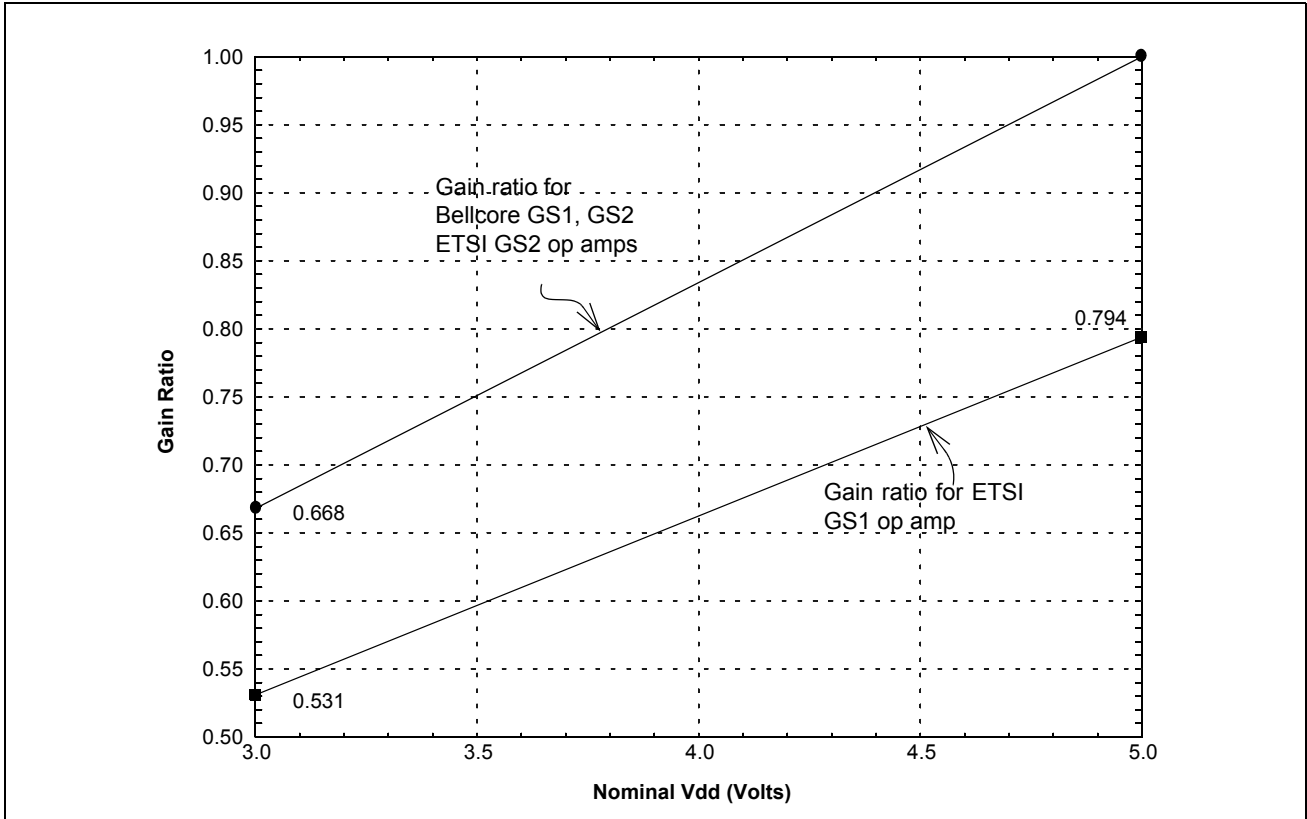

Figure 8 - Gain Ratio as a Function of Nominal Vdd
**Gain Setting Resistor Calculation Example for Figure 8:**
- For the desired nominal Vdd, use Figure 8 to determine approximate  $A_v$ .